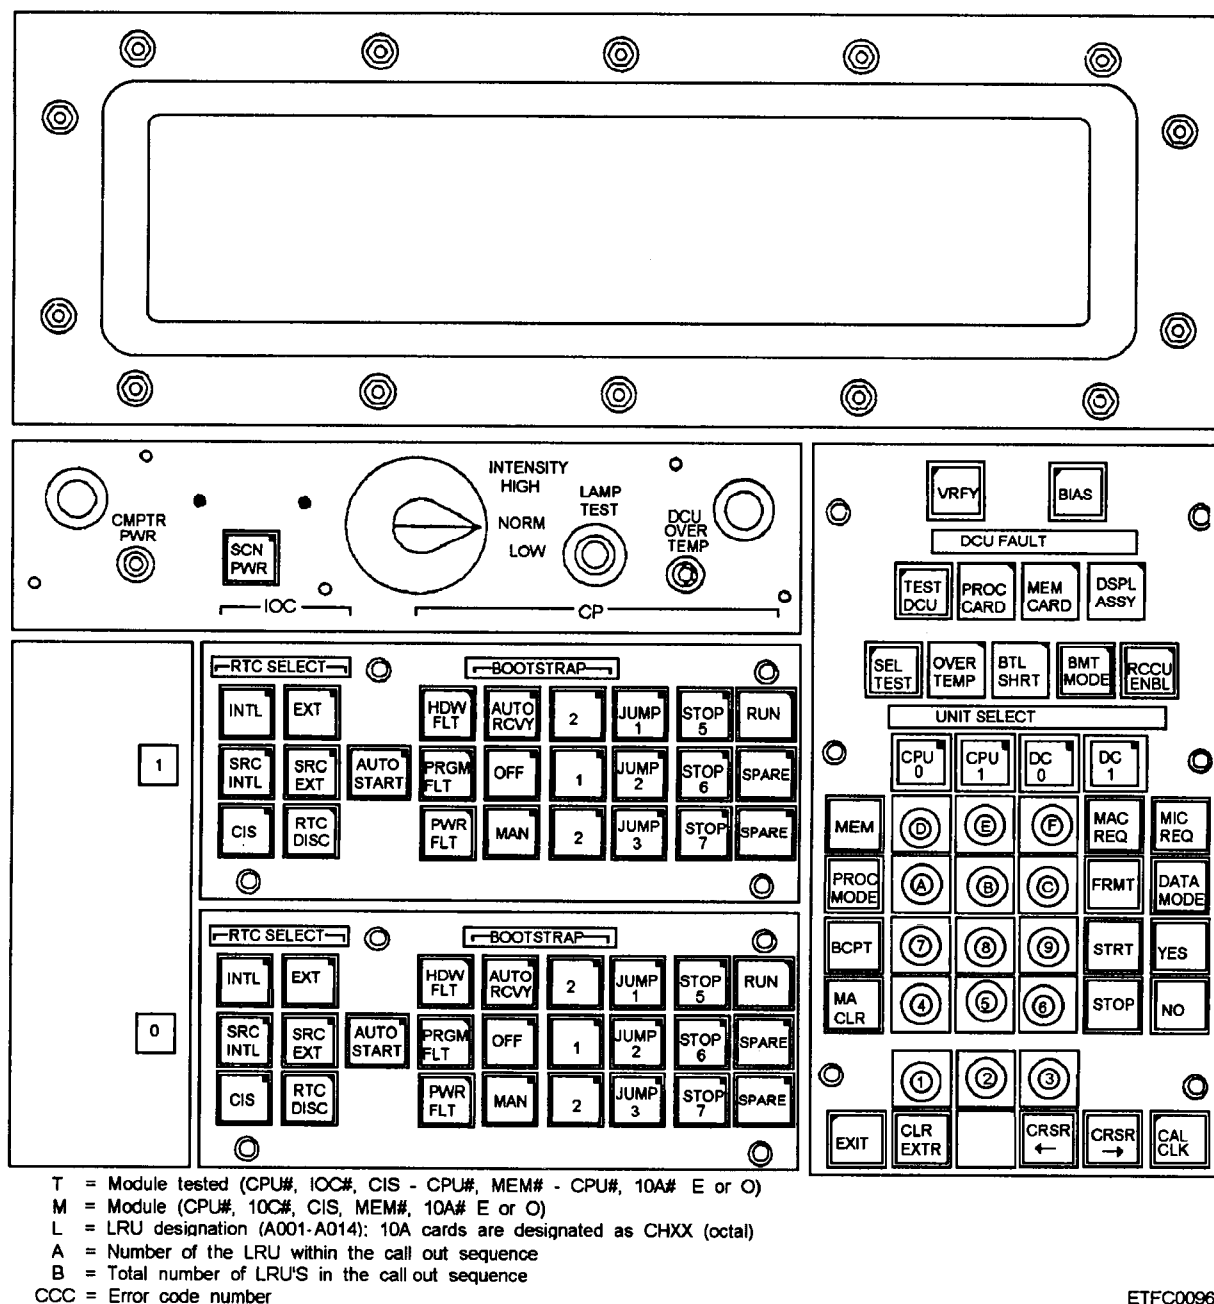

Figure 8-30.—Example of a display control unit.
we show a display control unit (DCU) in figure 8-30. Remote units are also available to provide initial startup just like the operator and display control units. Control, data entry, and data display man/machine interfaces of mainframes are your primary means of operating and maintaining a mainframe computer. You can control all operations from this man/machine interface. Newer mainframes, in addition to controls, switches, and pushbutton indicators, use displays and keyboards to display status and to address the contents of registers.
NDRO. They are designed to test the computer hardware (CPU, IOCs, and any optional circuits) and return pass/fail results to the operator. Pass/fail results are displayed on the control, data entry, and data display man/machine interface shown on figure 8-30. Similar to minicomputers, the BIT itself can consist of several levels of tests and subtests controlled from the computer's front panel. Some internal diagnostics are designed to test all or selected sections of the computer. Errors can be displayed on the front panel using the data display man/machine interface. The computer's technical manuals will enable you to decipher the error
**EXECUTE BOOTSTRAP.**— Execute bootstrap works in a manner similar to the function on minicomputers. An NDRO is used to perform this function. The NDRO is tailored at the factory and will select a particular peripheral device (disk, tape, and so forth) based on the position of the bootstrap switches (0, 1, or 2) located on the computer's controlling panel (maintenance, control, display control, or remote unit). To execute bootstrap, select bootstrap switch 0, 1, or 2 and depress the start switch (fig. 8-30). NDROs on mainframes may also be designed to perform a variety of tests or other functions that may be selected by use of the DIP switches.